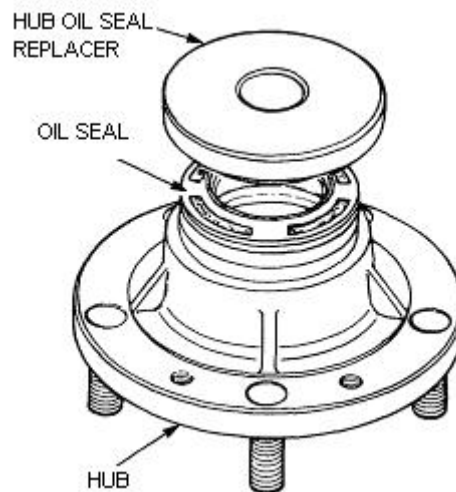

Figure 84 Hub Oil Seal Installation
- b. Using the hub oil seal replacer (Table 3, Serial 7) and the disc brake piston compressor (Table 3, Serial 12), press the new oil seals into the hub with the seal lip towards the hub bearing (Figure 84).
- d. Using the hub oil seal replacer (Table 3, Serial 7) and the disc brake piston compressor (Table 3, Serial 12), press the new oil seal into the hub with the seal lip towards the hub bearing (Figure 84).